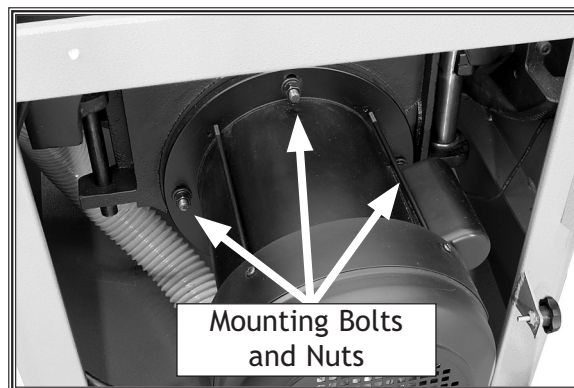
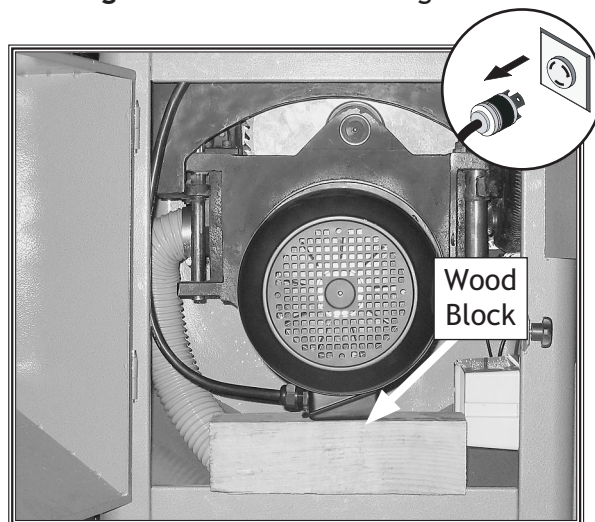

Figure 59. Motor mounting bolts.
Figure 60. Motor resting on wood block.
3. Using a 14mm wrench, loosen the three motor mounting hex nuts, shown in **Figure 59**, two turns, and place a 12" long 4x4 block between the cabinet and bottom of the motor, as shown in **Figure 60**.
4. Lower the arbor assembly until the motor rests on the wood block, as shown in **Figure 60**, to reduce tension on the flat belt. Be careful not to damage the motor, and do not force the arbor down further when it becomes difficult to move the handwheel.